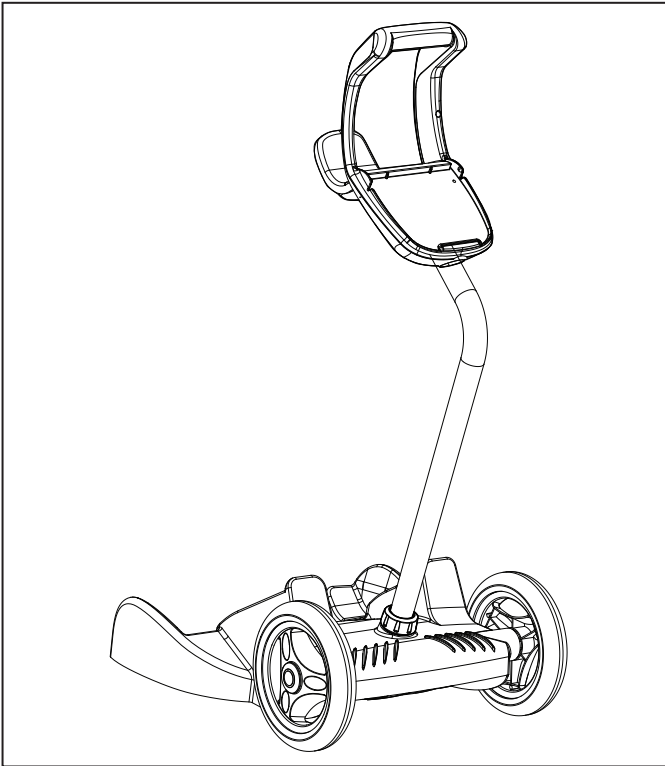

**Figure 5. Snap in Support Blocks and Attach Wheels**
5. Snap two (2) support blocks into place (Figure 5).
6. Slide axle and hubcap piece through center of wheel and attach to base unit. Snap locking clip into place to secure wheel. Repeat to attach both wheels (Figure 5).